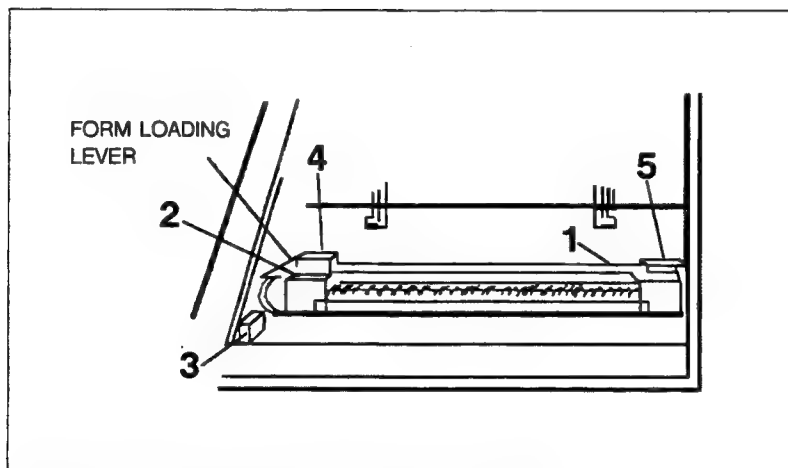

Figure 2-22. Removing the Foam Packing Blocks
- f. Remove the five foam packing blocks in the order shown in Figure 2-22. Block #1 and #2 are removed by grasping toward the rear and pulling up and out. When block #3, located under the forms loading lever is removed, the last two blocks, located behind the print mechanism will be freed.